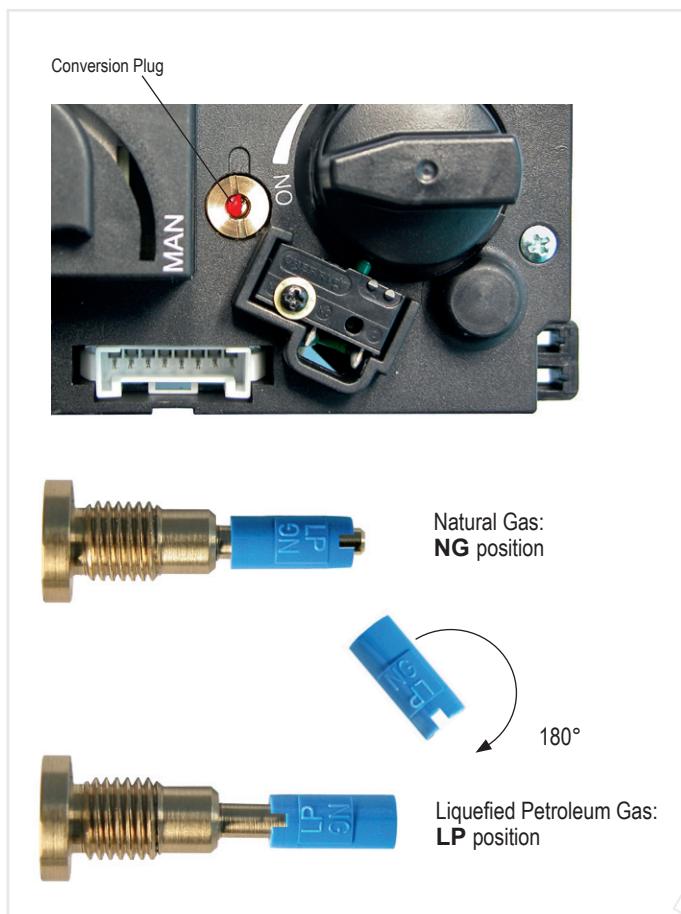

Figure 18: Conversion from one gas to another
Convertible regulators are designed to deliver either of two fixed outlet pressures for Natural Gas (NG) or LP Gas. To change from one gas to the other, turn the conversion plug (see figure 18) counter clockwise to remove. Unsnap and remove the plastic part, rotate it 180°, and then slide it back on the conversion plug until it snaps. Turn the conversion plug clockwise until it bottoms out.